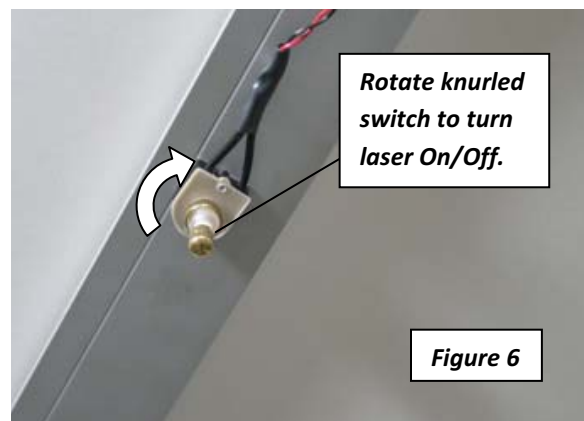

Figure 6
6. Remove the protective film from the rear of the switch body, and adhere it to the rear of the machine's diagonal brace (suggested location, Figure 6).